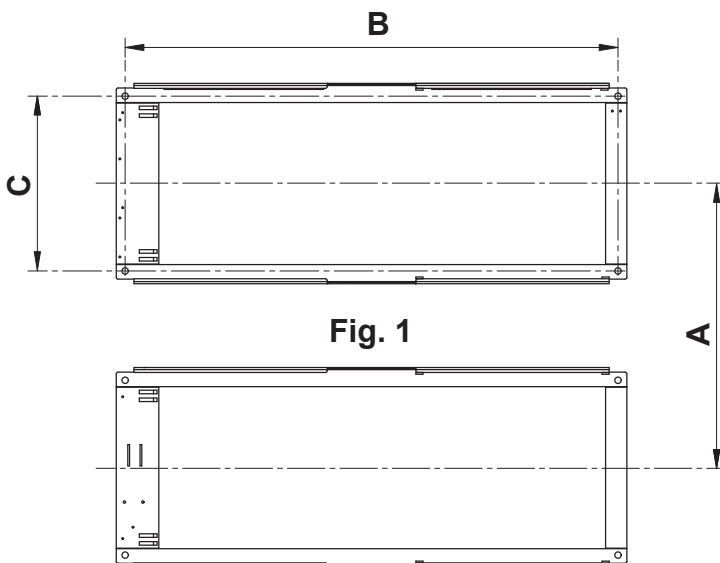

Fig. 1
The lift is shipped with the hydraulic system in the following conditions (fig.1):
Proceed as follows to complete the connection (fig.1):
- Using the bases as a template, drill a hole with a Ø15 bit, to a depth of 150 mm (also see the enclosed drilling diagram Fig.1).